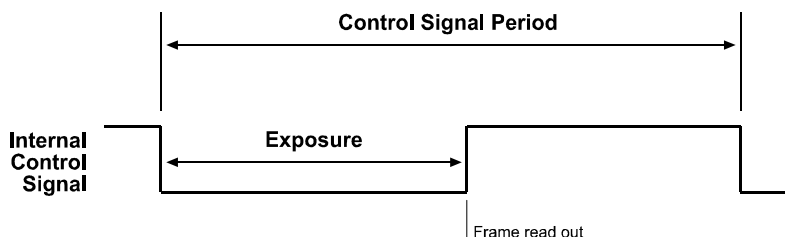

Figure 3-7: Free-run Programmable Mode
- In **free-run programmable mode**, the camera generates a continuous internal control signal based on two programmable parameters: "Exposure Time" and "Frame Period". The Exposure Time setting determines how long the internal control signal will remain low. Pixels are exposed and charge is accumulated when the internal control signal is low. The Frame Period setting determines the control signal period. The frame is read out and transferred on the rising edge of the internal control signal. See Figure 3-7.